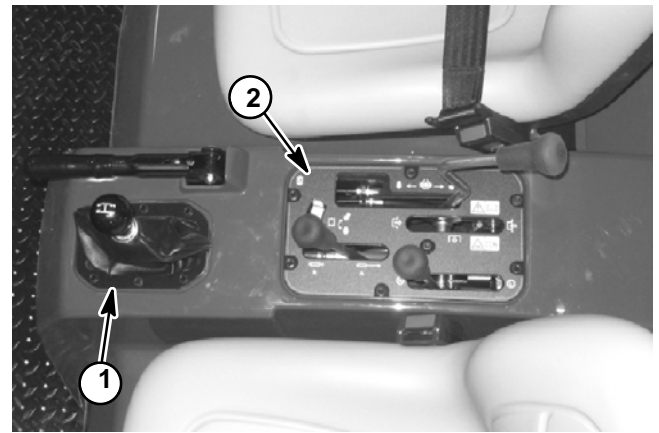
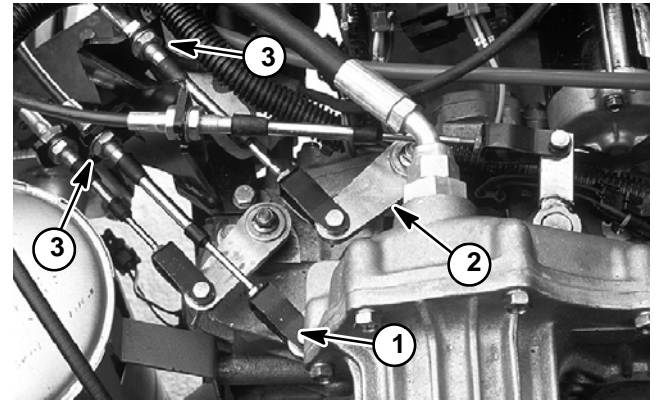

Figure 5
Figure 6
2. Remove knobs from control levers, then remove center console shift boot and control plate (Fig. 5).
3. Remove three (3) screws (item 18) and cable clamp (item 19) that secure shift cables to lever support.
4. Remove hair pin and clevis pin that secure shift cable clevis to shift link (item 10) on shifter in operator platform.
6. Remove shift cable from transaxle shift lever (Fig. 6):
2. Install cable clevis (item 11) onto front of shift cable so clevis is at mid-point of threaded end of cable. Tighten jam nut to secure clevis to cable.
3. Connect shift cable to shift link (item 10) on shifter in operator platform by inserting clevis pin (item 8) from the passenger side, then install hair pin.
4. Secure shift cables to lever support with cable clamp (item 19) and three (3) screws (item 18).
5. Spread jam nuts on bulkhead fitting of cable (Fig. 6). With cable properly routed to transaxle, install cable bulkhead fitting to shift cable mount bracket on transaxle and tighten jam nuts.